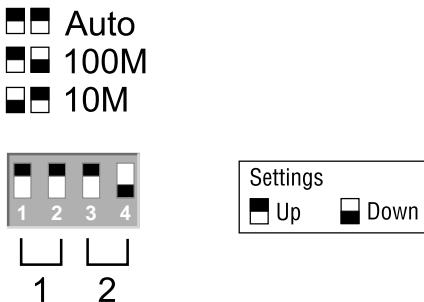

Figure 3 Close-up of DIP Switch Setting
**Speed DIP Switch.** This DIP switch manually selects auto-negotiation, 10 Mbps, or 100 Mbps speed for Port 1 and Port 2. Figure 3 shows a close-up of the DIP switch setting. In the example below, Port 1 is in the Auto position and Port 2 is in the 100M position.